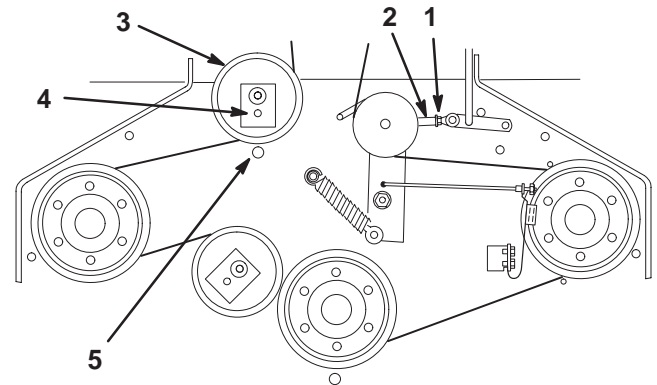

Figure 53
- Loosen locknut on turnbuckle (Fig. 53).
- Rotate turnbuckle toward rear of mower to increase tension on belt. Rotate turnbuckle toward front of mower to decrease tension on belt (Fig. 53).
- If the belt is still loose after making adjustments to the turnbuckle, reposition the rear idler pulley to the front hole. The belt guide next to the pulley must also be moved to the front hole (Fig. 53).